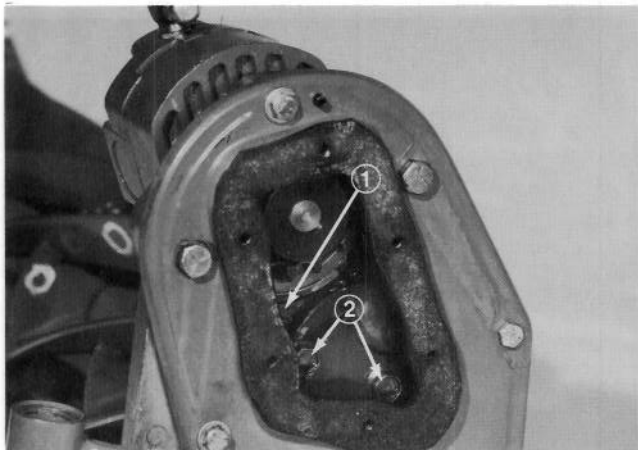

Figure 15
13. Check chain tension (Fig. 15). Chain should have 1/8 to 1/4 in. (3 to 6 mm) deflection when properly adjusted and should be retensioned when deflection exceeds 1/4 in. (6 mm). Rotate reel while checking to ensure all portions are within specification. If tension is correct, proceed to step 17. If tension is incorrect, proceed to step 14.
14. Loosen idler mounting capscrews (Fig. 15). Rotate the reel by hand watching for the sprocket position where the chain tension is tightest. At this point make a final idler adjustment fingertight, for chain deflection.